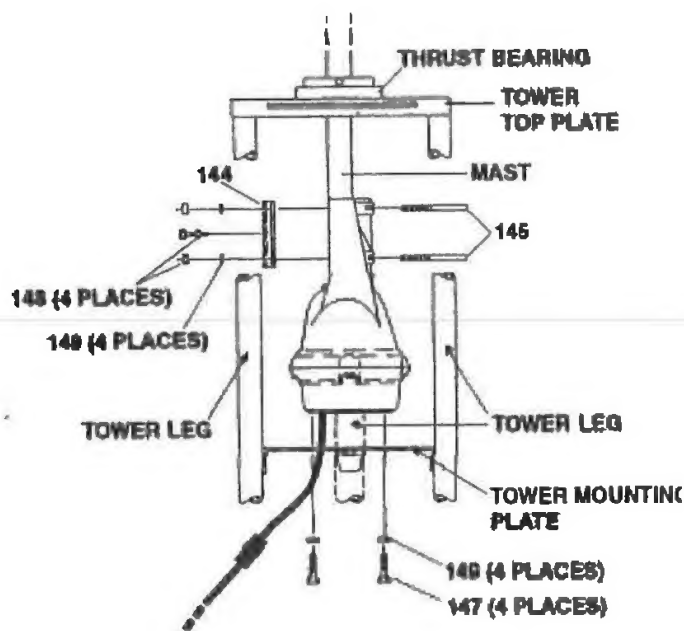

Figure 4
There are three general types of installations (see Figures 4, 5 and 6).
The rotator is mounted inside a tower (see Figure 4) to the flat tower plate by means of four (4) bolts furnished in the hardware kit. Use the following procedure:
3. The rotator is attached to the tower plate by means of four (4) bolts and lockwashers (see Figure 4). The flat tower plate must be drilled in four (4) places using the template provided with this manual unless the tower plate is already properly drilled.
4. Tighten the four (4) bolts, but not to final tightness. Observe how the rotator turns. It must rotate in such a manner as to turn the mast concentrically in the thrust bearing.
5. Trial assemble the mast to the top of the rotator using the U-bolts, nuts and lockwashers through the rotator and clamp plate as shown in Figure 4. The maximum mast diameter that may be used is 21/16" O.D. We recommend 1 1/2" nominal steel pipe with 1.9" O.D. in standard wall thickness of .145". For stacked arrays or very large beams, we recommend extra heavy-duty wall thickness of .200". Both steel pipes can be purchased to specification ASTM120.